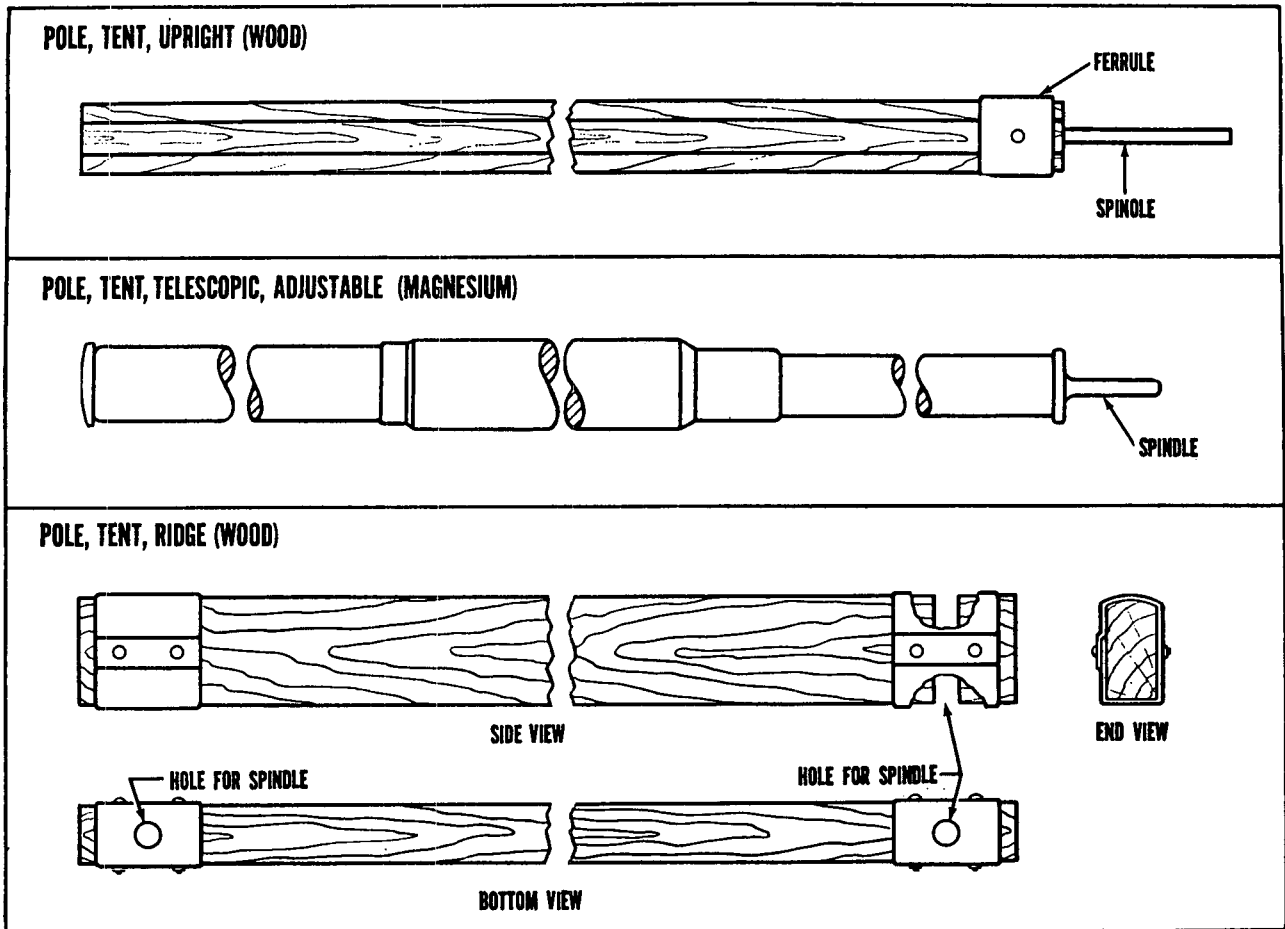

Figure 106. Tentpoles.
- (1) The wood frame arches are hinged so that arch segments can be folded for transport. Wood purlins, connected between arches, extend the tent frame to the proper tent length.
- (2) The metal frame arch segments are assembled by inserting one segment end into another segment end and fastening the two arch segments together with locking pins, bolts, or purlins. Metal purlins, connected between arches, extend the tent frame to the proper tent length.
a. Types of Tentpoles. Tentpoles (fig. 106) are of two types: upright and ridge. A ridge